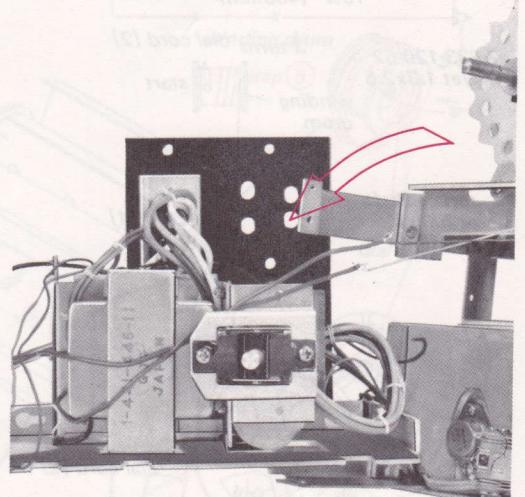

Fig. 2-35
4. Set the side-mirror lever to the middle position. After setting the side-mirror lever, move the film with fingers to see if the film does not move. If the film does not move, set the dial control as shown in Fig. 2-35.